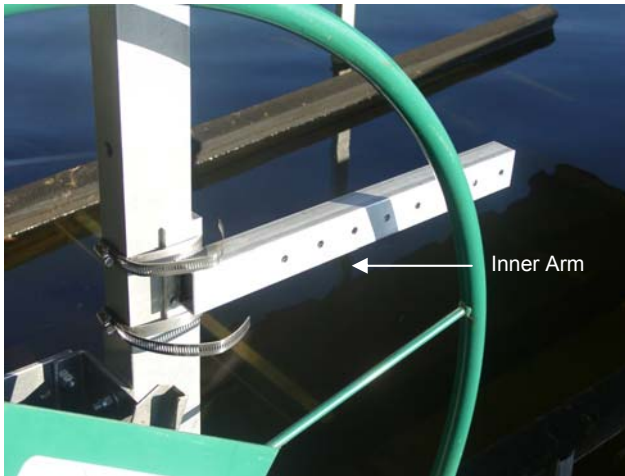

FIG 6: Left Winch Post Installation View
2. Mount the inner arm with bracket to the winch post. In this case it is just above the winch box. See Figs. 6 or 7 depending on which type of post mount.